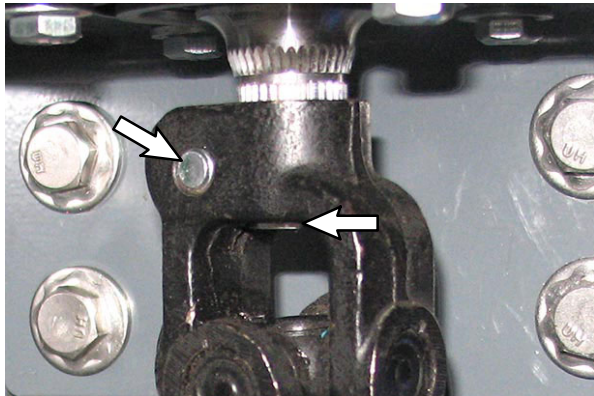

FIG. 17
10. Tap up on the lower power steering shaft up until the power steering motor (4) shaft is flush with the surface on the lower power steering shaft as shown. (Fig. 17)
11. Tighten hardware to secure the lower power steering shaft onto the power steering motor (4) shaft. Torque the SEMS M8 hex screws to 22 Nm (16 ft lbs). (Fig. 17)